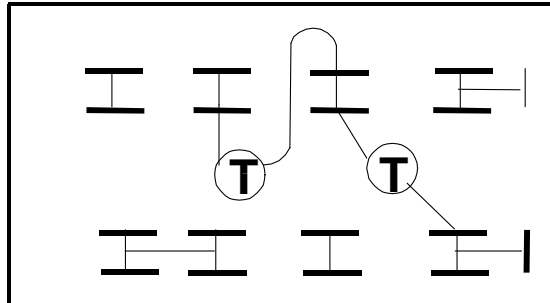

Fig. 8 Wired for 220VAC Operation
- Step 1: Wire Power Transformer Terminal block as illustrated in Figure 8.